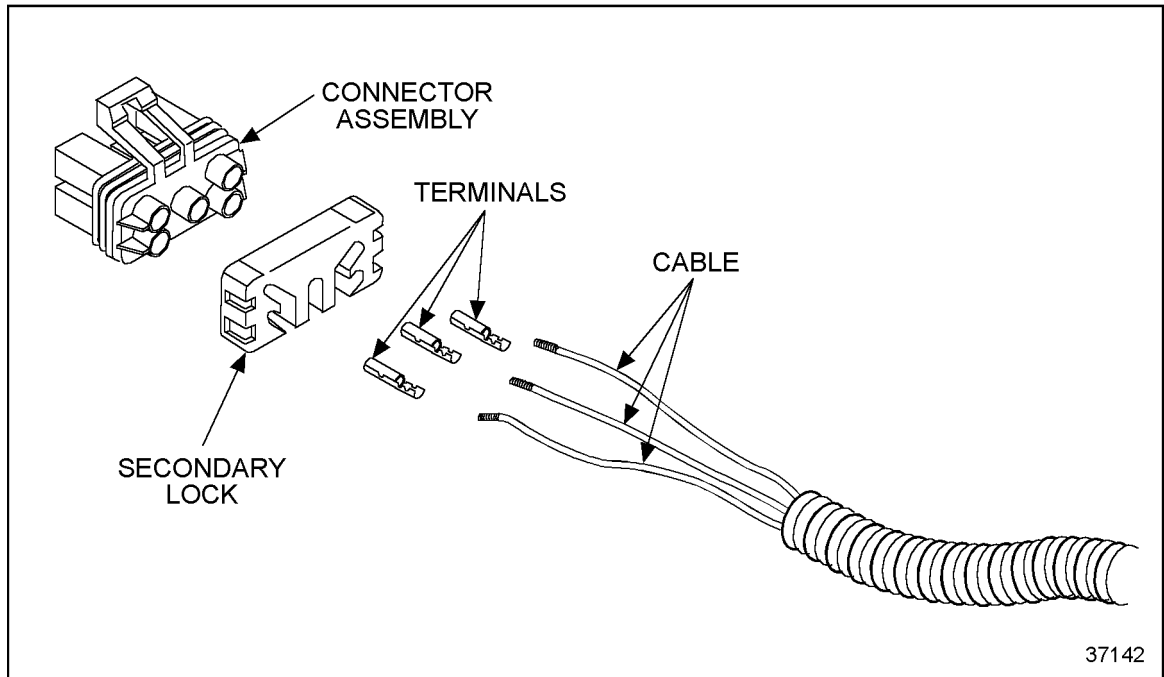

Figure 3-42 Typical Push-to-Seat Terminal Installation
9. Insert terminals into connector and push to seat (see Figure 3-42). Insert the secondary lock(s) to position and secure the assembly.